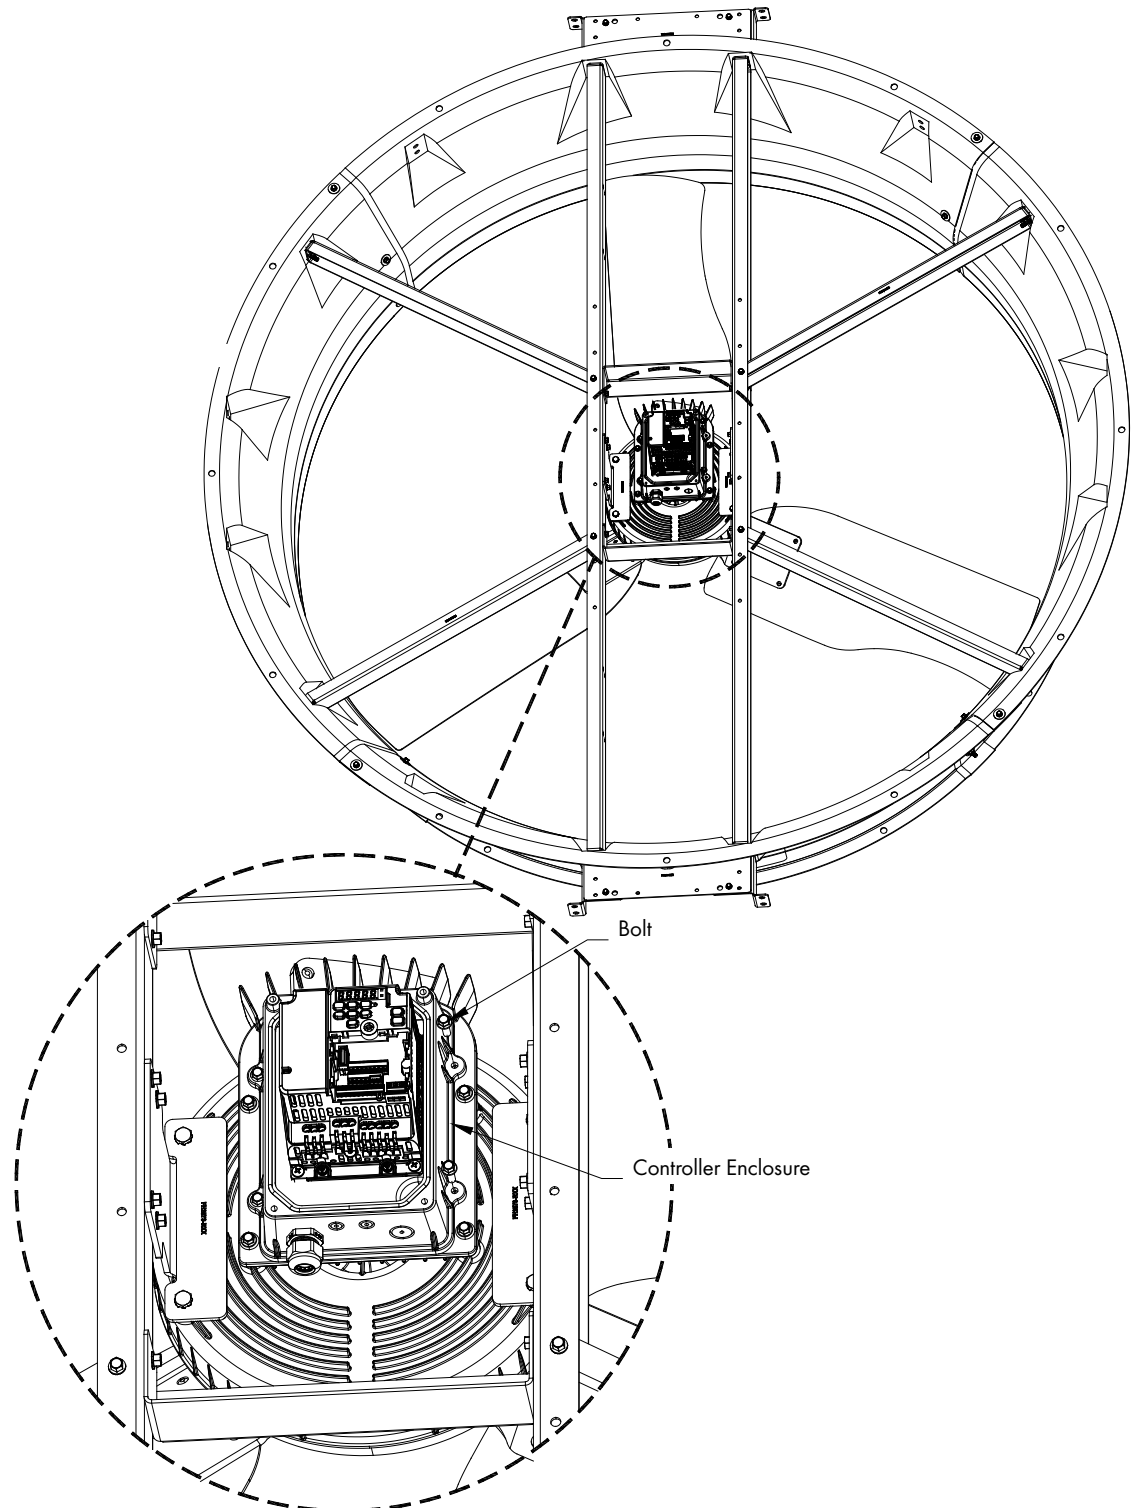

Figure 11
Remove the blue Controller Enclosure from the heat sink by removing the (4) Bolts holding it in place. Save the bolts to reinstall the enclosure later. See Figure 11.